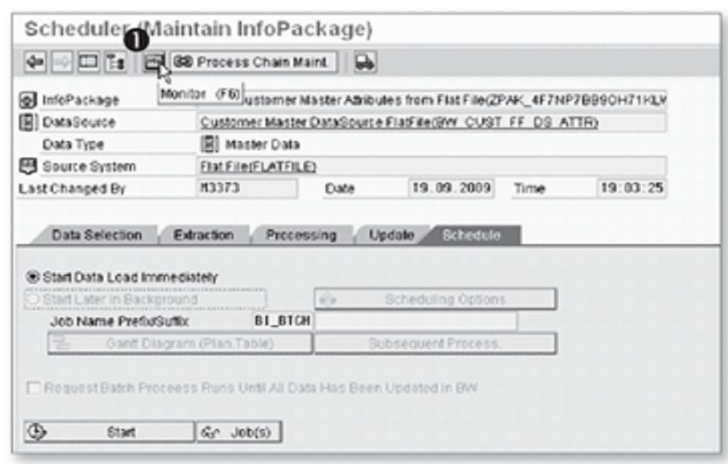

Figure 7.37 Monitor
After the data extraction begins, you can click on the Monitor icon (📊) shown in ❶ of Figure 7.37 to check the status of the data extraction.